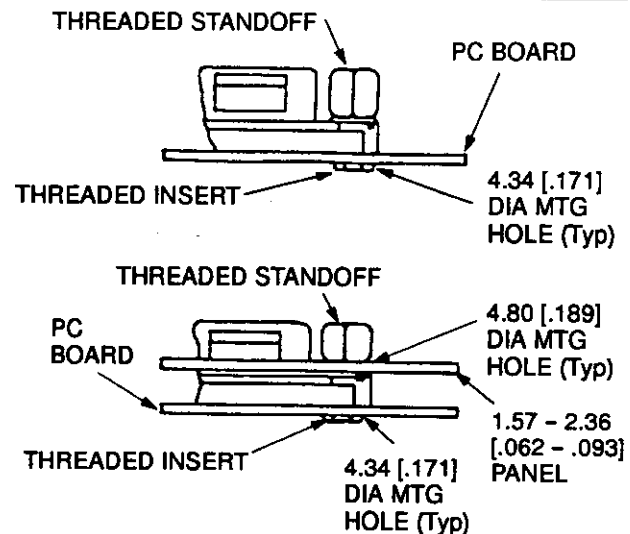

Figure 11
D. IEEE No. 488-1978 Screw Lock Kit (Figure 11)